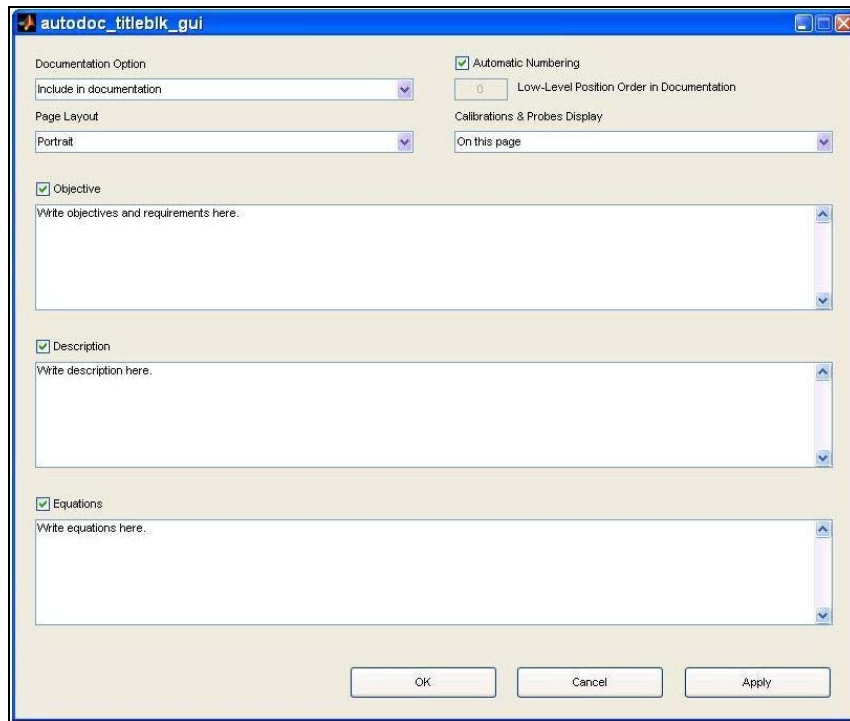

Figure 3: Title block GUI
4. **Choose title block options.** Double-click the motohawk_autodoc block to load the AutoDoc blocks onto the screen. Then, double-click the title block to see the graphical user interface (as in Figure 3) and refer to the following regarding the options.